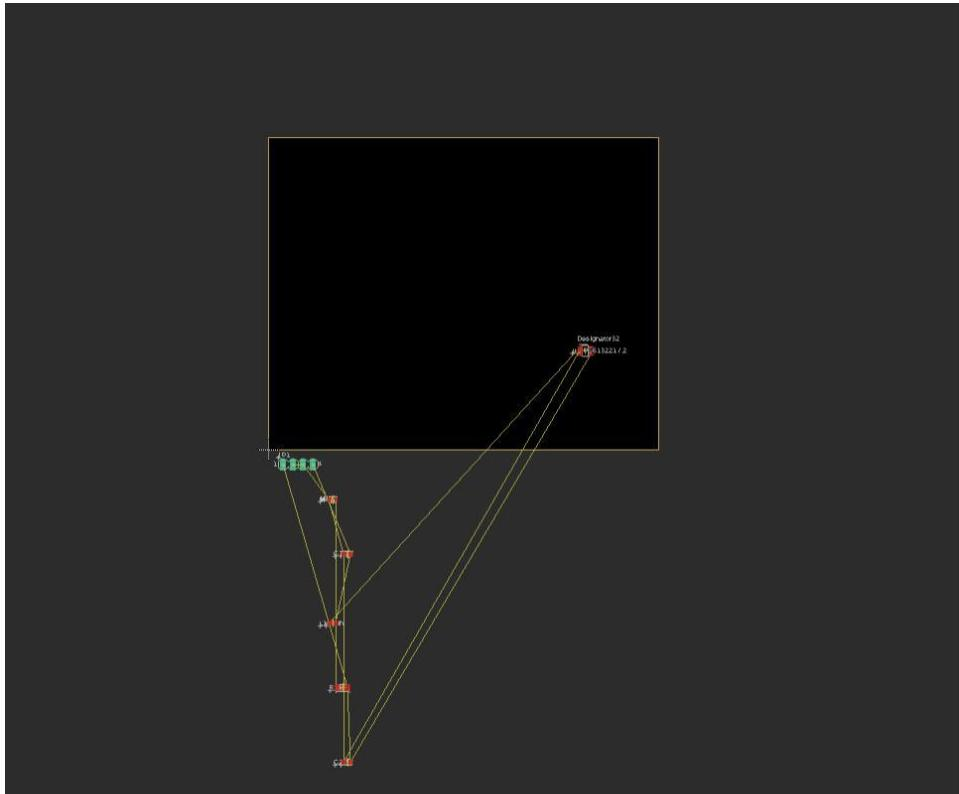
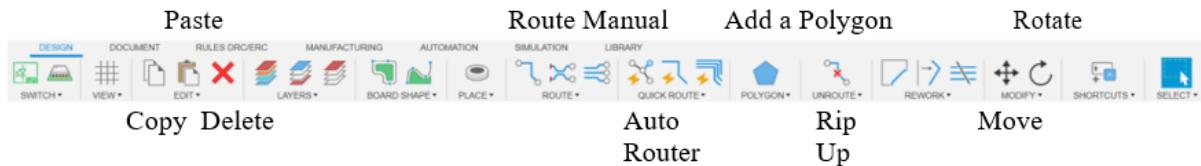
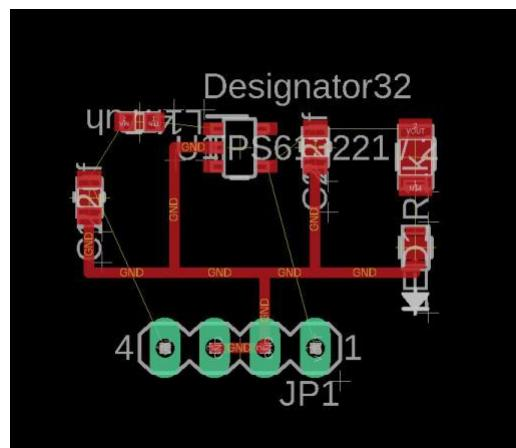

Figure 18: Board window showing a part on the board and other parts yet to be moved.
Figure 19: Board Menu / tools.
Figure 21: Board window showing the ground air wires manually routed with 20 mil traces.
3.18: Using the move tool, we must place the parts onto the board. Figure 18 shows one part placed onto the board using the move tool with the other parts yet to be moved. Figure 19 shows all the parts placed and oriented on the board (rotate tool) on the board. The maze of interconnecting air wires is known as a ratsnest (still not traces yet).
3.19: Figure 19 gives some of the tools available on the board menu. Using the route manual tool , we will route the traces for each component. Select the route manual tool and in its top menu change the width from **6 mils** default to **20 mils** and for the trace that connect to LED pads, the width should be **16 mils** due to the small pad's footprint. Pick an air wire in the schematic to create its trace. Do not use the auto router tool to route your traces. If you make a mistake, you can use the rip up tool to remove the trace. Figure 21 shows the result of routing the ground air wires with 20 mil traces.